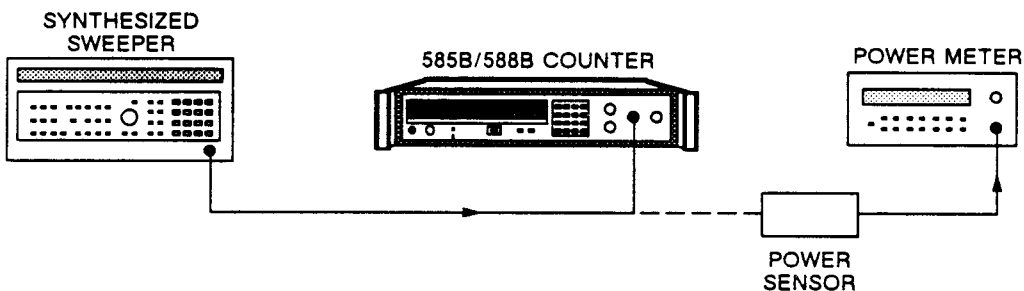

Figure 8-5. Band 2 Range and Sensitivity Test Setup.
1. Connect equipment as shown in Figure 8-5.